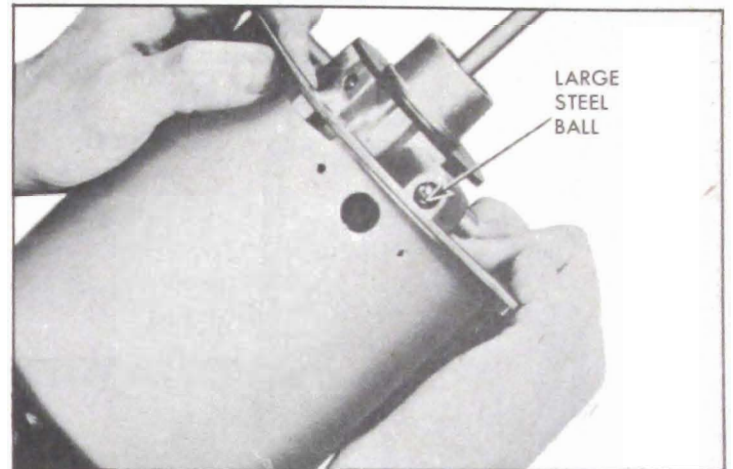

Figure 9-29—Positioning Piston in Housing
22. Wipe a light coat of Dynaflo oil on O.D. of leather cup. Position power piston assembly on spring with large steel ball aligned with vacuum tube attaching screw hole in housing. See figure 9-29. Place gasket against vacuum tube flange. Push piston assembly into housing past vacuum tube hole and insert vacuum tube through hole. Vacuum tube will now hold power piston in place. Slide vacuum hose onto vacuum tube. Hold piston assembly in until vacuum tube attaching screws are tightened, then release piston slowly against tube.